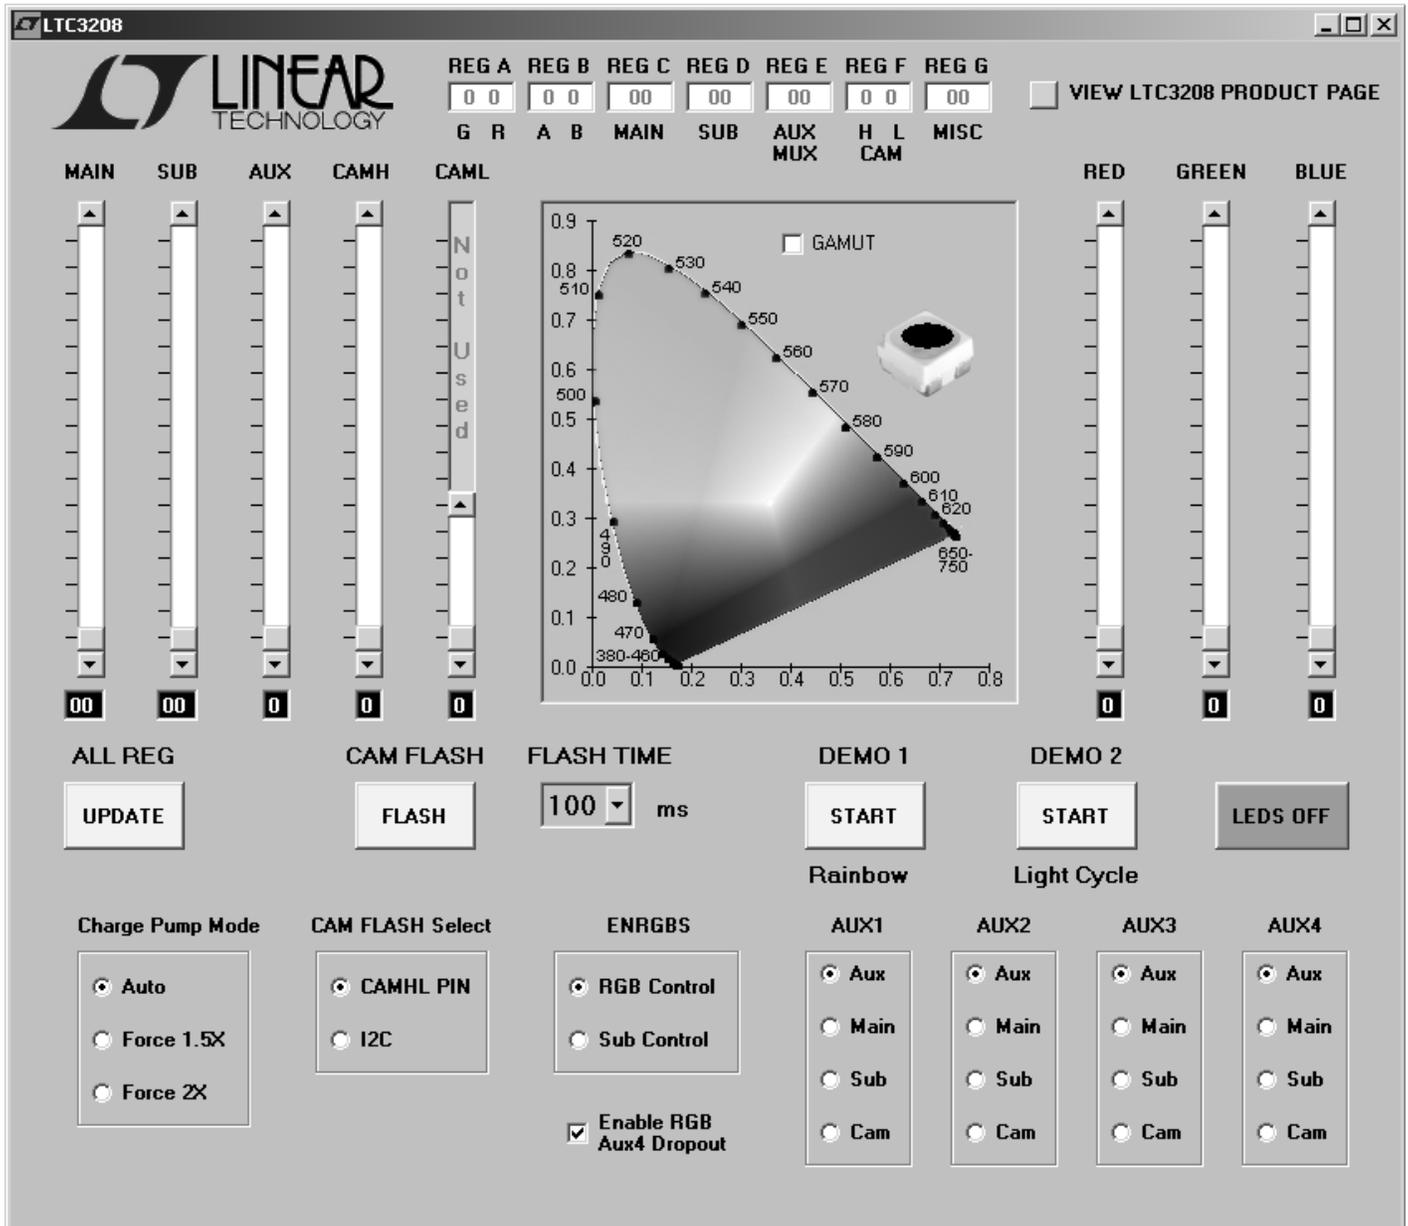

Figure 3. LTC3208 Control Window
5. Run the QuickEval™ program. The program detects the DC824 and displays the LTC3208 control window (shown in Figure 3).